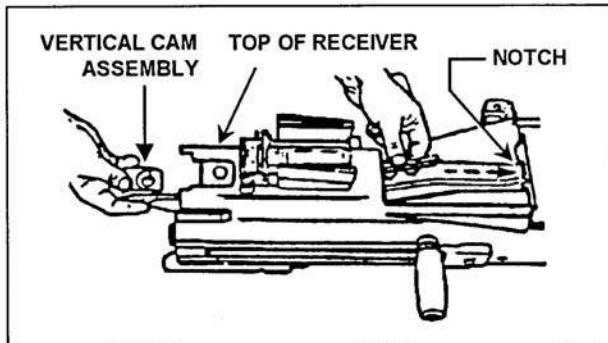

Figure 071-030-0001-22. Engagement of the vertical cam assembly
- h.** Engage the vertical cam assembly (figure 071-030-0001-22).